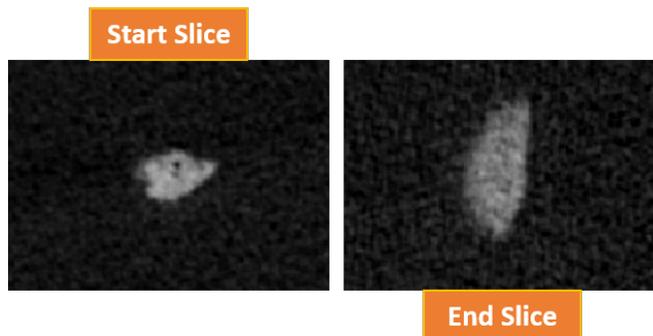

Figure 15: Screenshots of starting and ending slices of a bone that can be regarded as “prominent.”
35. To do this, navigate to the “Contouring” tab of SCANCO’s “Ev” (Evaluation) window. By default, the slice bar is located at the first slice. Drag the slice slider to the right until the first bit of bone appears (start slice region), and move it all the way toward the end until the last bit of bone appears (end slice region). Record the appropriate values as described in the previous step. Refer to Figure 15 below for additional information.